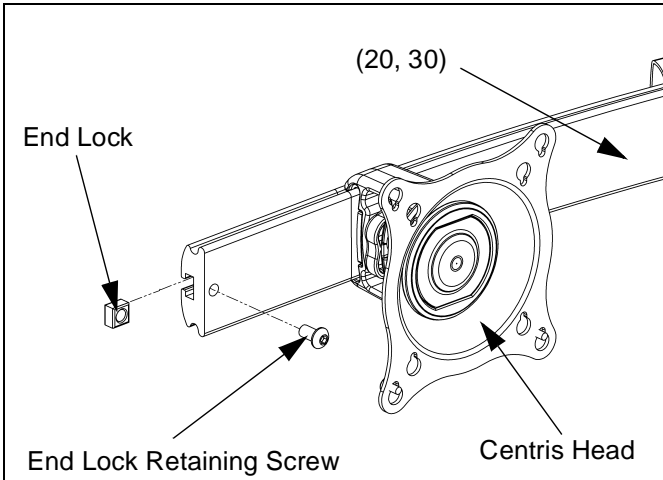

Figure 13: Reinstall End Lock(s)
8. Reinstall end locks into mounting rail using the 5/32" hex key (120) (see Figure 13).